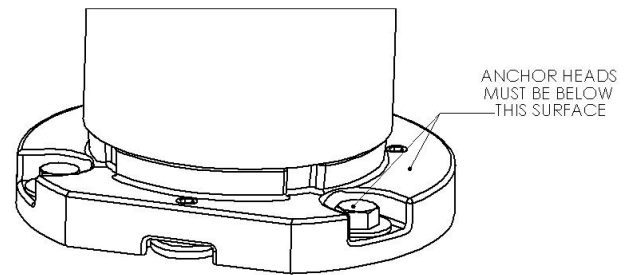

Figure 3: Anchoring Details
5. Fully tighten anchoring hardware, following the manufacturers' recommendations, making sure the head of the anchoring bolt or nut is below surface mount plate top face (See Figure 3)
6. Fully tighten anchoring hardware, following the manufacturers' recommendations, making sure the head of the anchoring bolt or nut is below surface mount plate top face (See Figure 3)